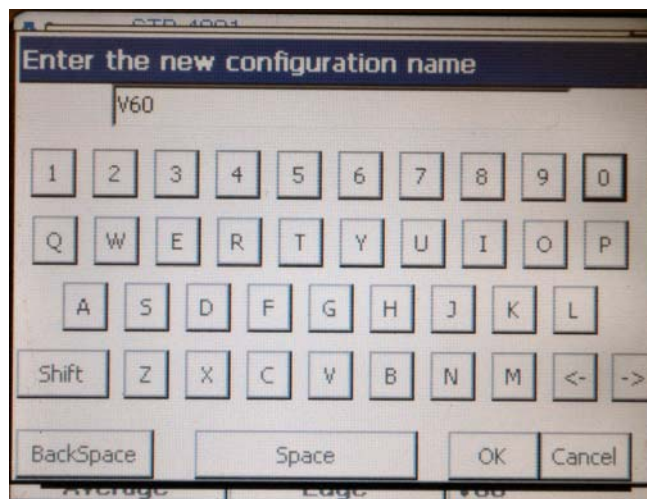

Figure 8-9: Entering a New Configuration Name (Certifier FA Plus)
5. Use the touch screen keyboard to enter the new configuration name (**V60**), then touch **OK** (Figure 8-9).